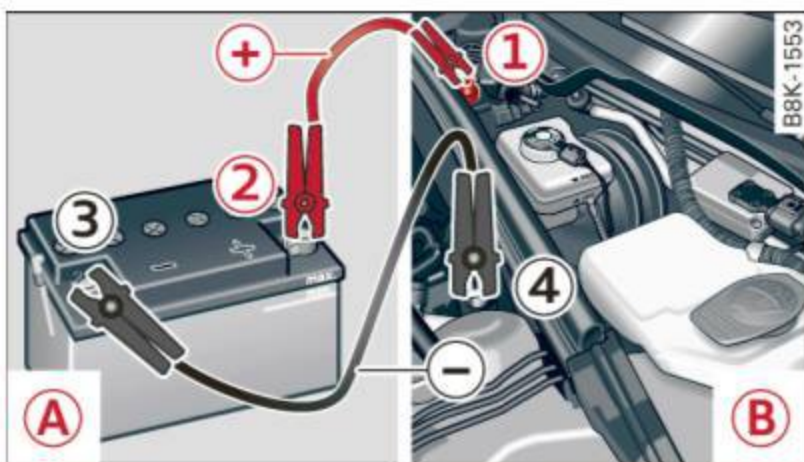

Fig. 188 Jump starting with the battery of another vehicle: (A) booster battery, (B) discharged vehicle battery
1. Connect one end of the red positive cable on the **jump start bolt** ⇒ *fig. 188* (1) (Bolts under cover = "positive") of the vehicle to be started (B).
2. Connect the other end to the positive terminal (2) of the booster battery (A).
- Please note that the procedure for connecting a jumper cable as described above applies specifically to the case of your vehicle being jump started. When you are giving a jump start to another vehicle, do *not* connect the negative (-) cable to the negative (-) terminal on the discharged battery  ⇒ *fig. 188*. Instead, securely connect the negative (-) cable to either a solid metal component that is firmly bolted to the engine block or to the engine block itself. If the battery that is being charged does not vent to the outside, escaping battery gas could ignite and explode!